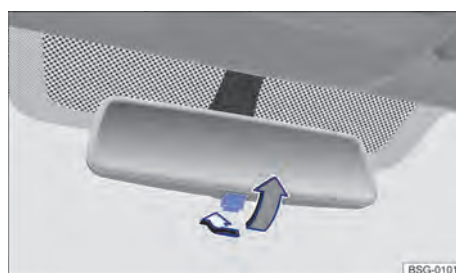

Fig. 85 On the windscreen: manual anti-dazzle interior mirror.
- Pull the lever back to select the anti-dazzle function → Fig. 85.